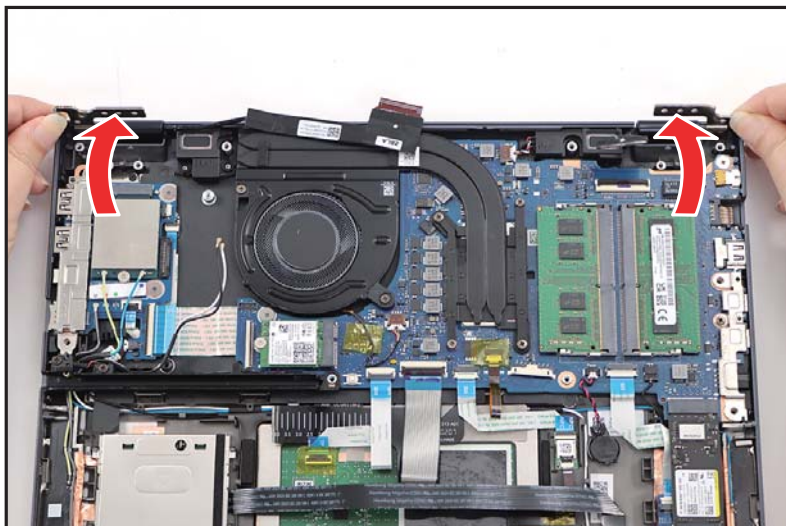

Figure 1-23. LCD Module Removal
7. Close the top assembly and lift both LCD hinges until they are fully extended (Figure 1-23).